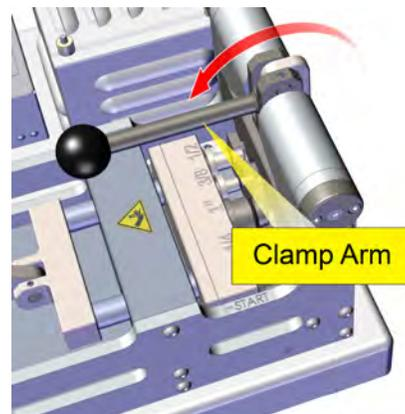

Fig. 11. Clamp Arm fully retracted
10. Return the Clamp Arm back to the fully open position. See Fig. 11.